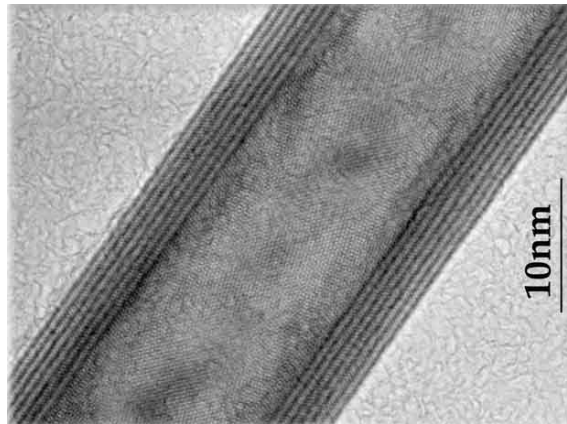

Figure 2: Image showing the morphology of zinc dioxide nanotube obtained via hydrothermal method
- (c). Zinc oxide (ZnO) nanotubes are produced by reacting ZnO powder in a solution containing a high concentration of potassium hydroxide (KOH) using a hydrothermal process at 200°C for 8 hours. The ZnO nanotube specimen image from this process is displayed in Figure 2. Specify the best instrument to capture the image in Figure 2 and, with appropriate diagrams, describe how this instrument allows visualization of the specimen.